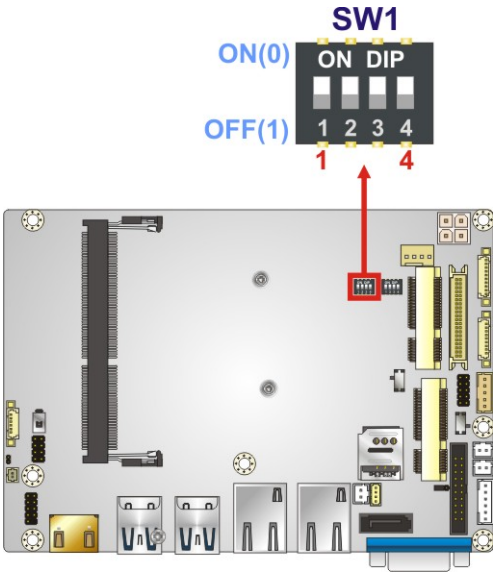

Figure 4-11: LVDS Panel Type Selection Switch Location
- Jumper Location:** See Figure 4-11